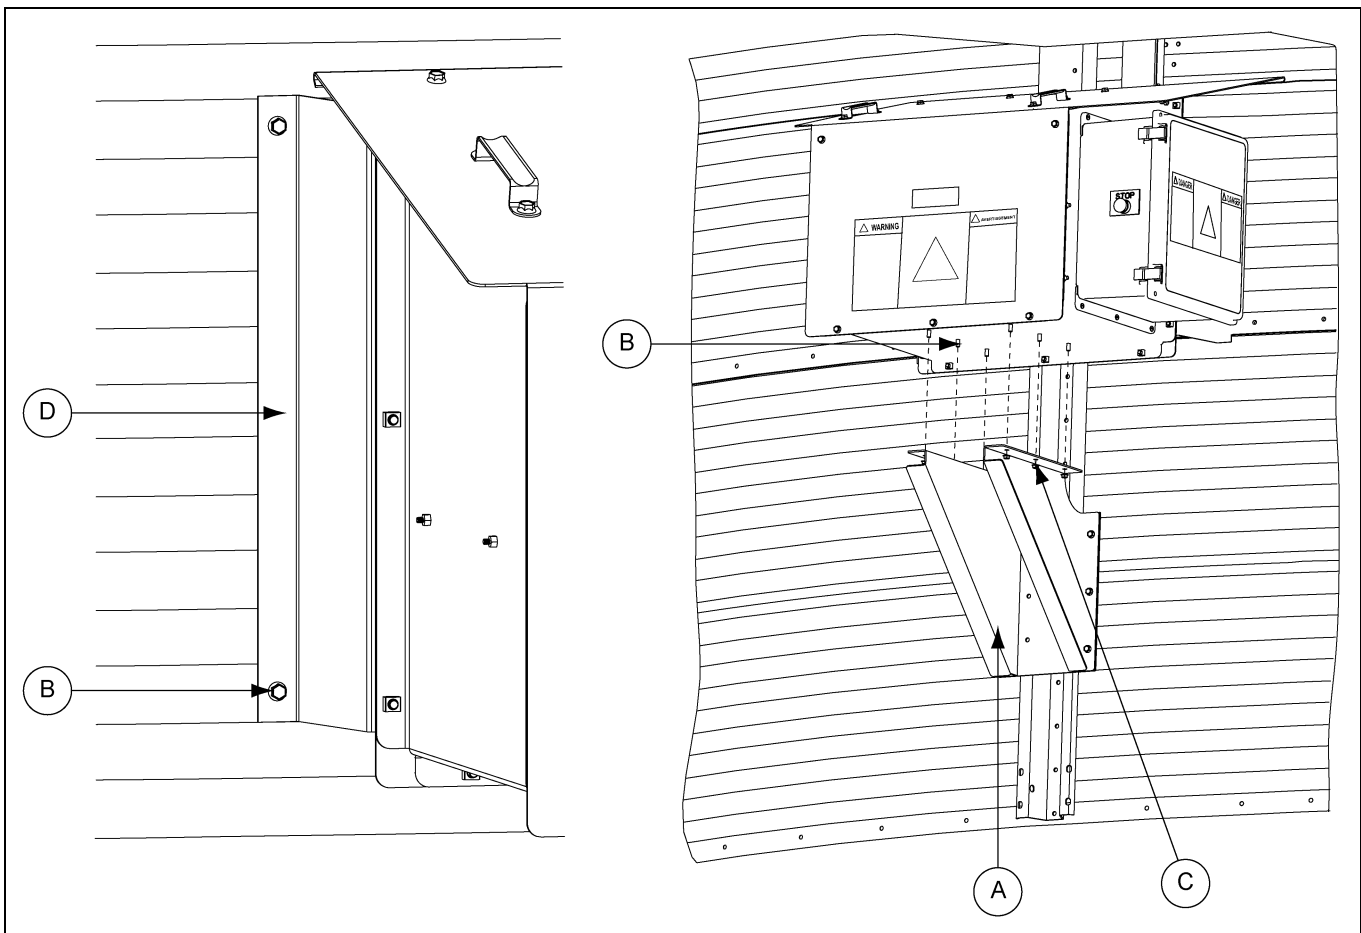

Figure 4G
1. Lift the housing assembly onto the lower mounting gussets (A), aligning holes in the bottom of the chute position controller enclosure with the holes in the lower mounting gussets.
2. Remove cover to attach chute position controller enclosure to gussets with six (6) flange bolts (B) and flange nuts (C). (See Figure 4G.)
3. Field drill all four (4) holes in the bin sidewalls through the four (4) holes in the sidewall mounting brackets (D), making sure that the holes are drilled on the peaks of the corrugation ridges. Use bolts to attach housing to bin.